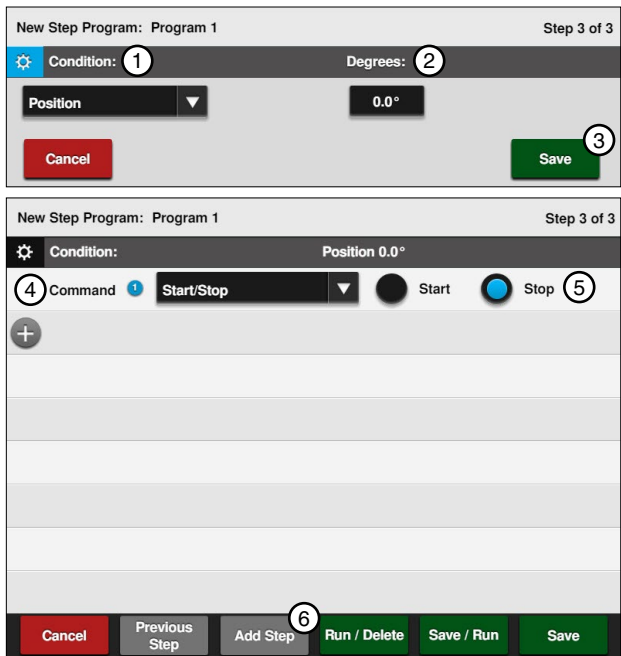

Figure 130-2 1. Position Condition 2. Degrees 3. Save 4. Start/Stop Command 5. Start 6. Add Step
- a) Select the **Choose Condition** drop-down menu and choose **Position**. Refer to Figure 130-2.
- d) Select the **Choose Command** drop-down menu and choose **Start/Stop**. Refer to Figure 130-2.